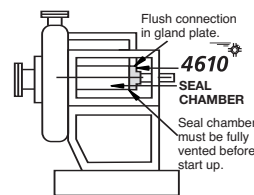

FIGURE 1
- Lubricate the shaft/sleeve(7) using soft hand soap/water solution, glycerine or silicone grease.
- Slide the cartridge over the seal chamber studs until the gasket(5) abuts against the seal chamber face.
- Ensure the shaft is in its working position and evenly tighten the collar(8)/set screws using the allen key provided, which secures the cartridge sleeve to the shaft. Recommended torque values for seals of size 60mm/2.375" and below are 8Nm and 13Nm for seal sizes between 63mm and 70mm or 2.5" and 2.75". The centralizing ring(11) automatically maintains the set location of the seal components and there are no setting clips to remove.
- Complete the required piping to the seal-see figures 1, 2, and 3. If no flush is fitted and the seal chamber is not self-venting, it is recommended a vent pipe and valve are fitted. If neither flush connection or vent pipe/valve can be fitted, do not remove the 1/4" NPT plug.